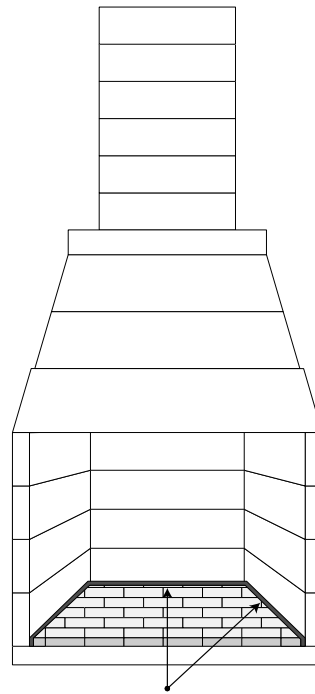

FIGURE 9.1
4. Start applying the firebrick at the front edge of the floor and work your way back leaving approx. ½" gap off the back and side walls (Figure 9.1) – this space allows for heat expansion and is to be left empty of mortar. For the floor only, FireRock recommends a brick to brick joint.